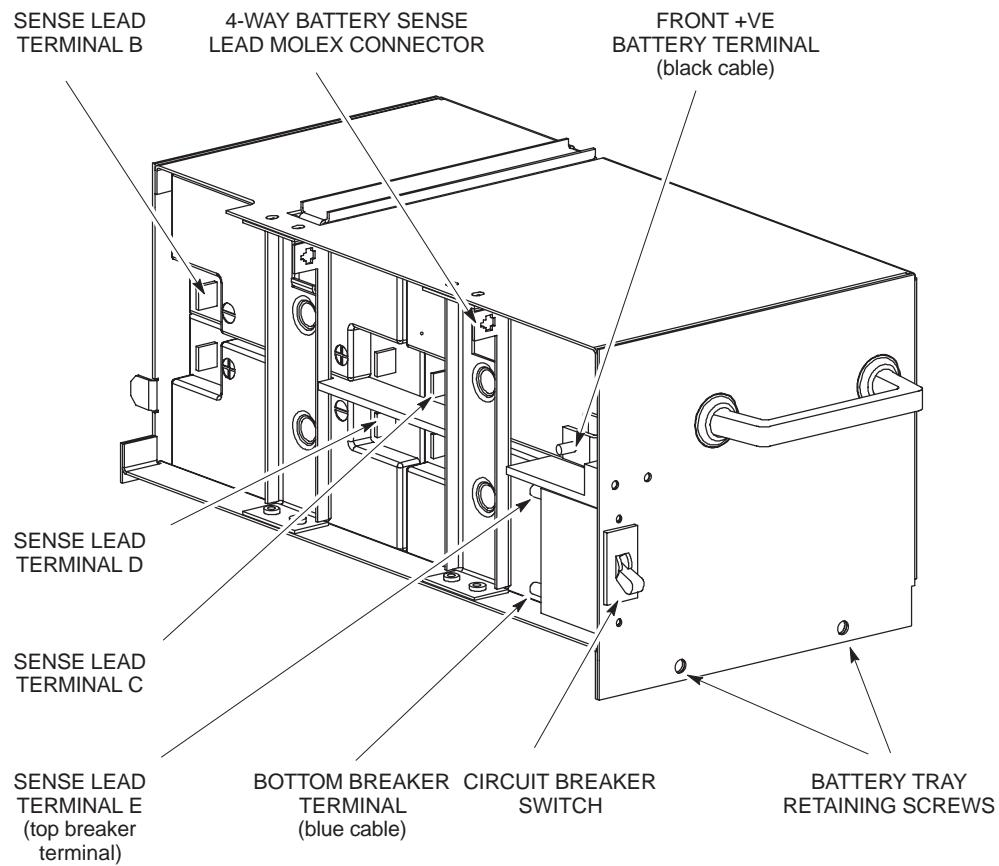

Figure 3-4 Making the connections on the internal battery tray
To connect the internal batteries (refer to Figure 3-4):
4. Ensure the four battery sense leads are connected as shown in Figure 3-4 and plug the black Molex 4-way connector into its socket on the battery retaining strap.
Figure 3-4 shows a view of the internal battery tray.